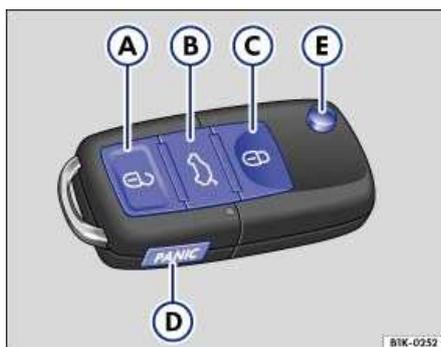

Fig. 20 Buttons on the remote control key.
- Press the  button (⇒ Fig. 20 (A)) on the remote control key to unlock both doors and the rear lid. Press one time and unlock just the driver's door. Press a second time and unlock all the vehicle doors.
- You can program the vehicle to unlock the driver's door by itself, using the Convenience menu¹⁶ (⇒ page 35), or your authorized Volkswagen dealer or a qualified workshop can do it for you. When programmed this way, press the  button once to unlock just the driver's door (⇒ Fig. 20), or twice to unlock both doors and the rear hatch ⇒ page 50, "Individual unlocking".
- Press the  button on the remote control key ⇒ Fig. 20.